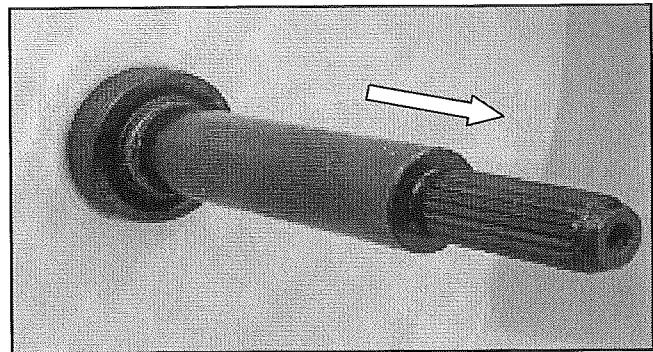

FIGURE 8
- Tip washer forward off the hoses and remove drive shaft and seal from tub. See *Figure 8*.